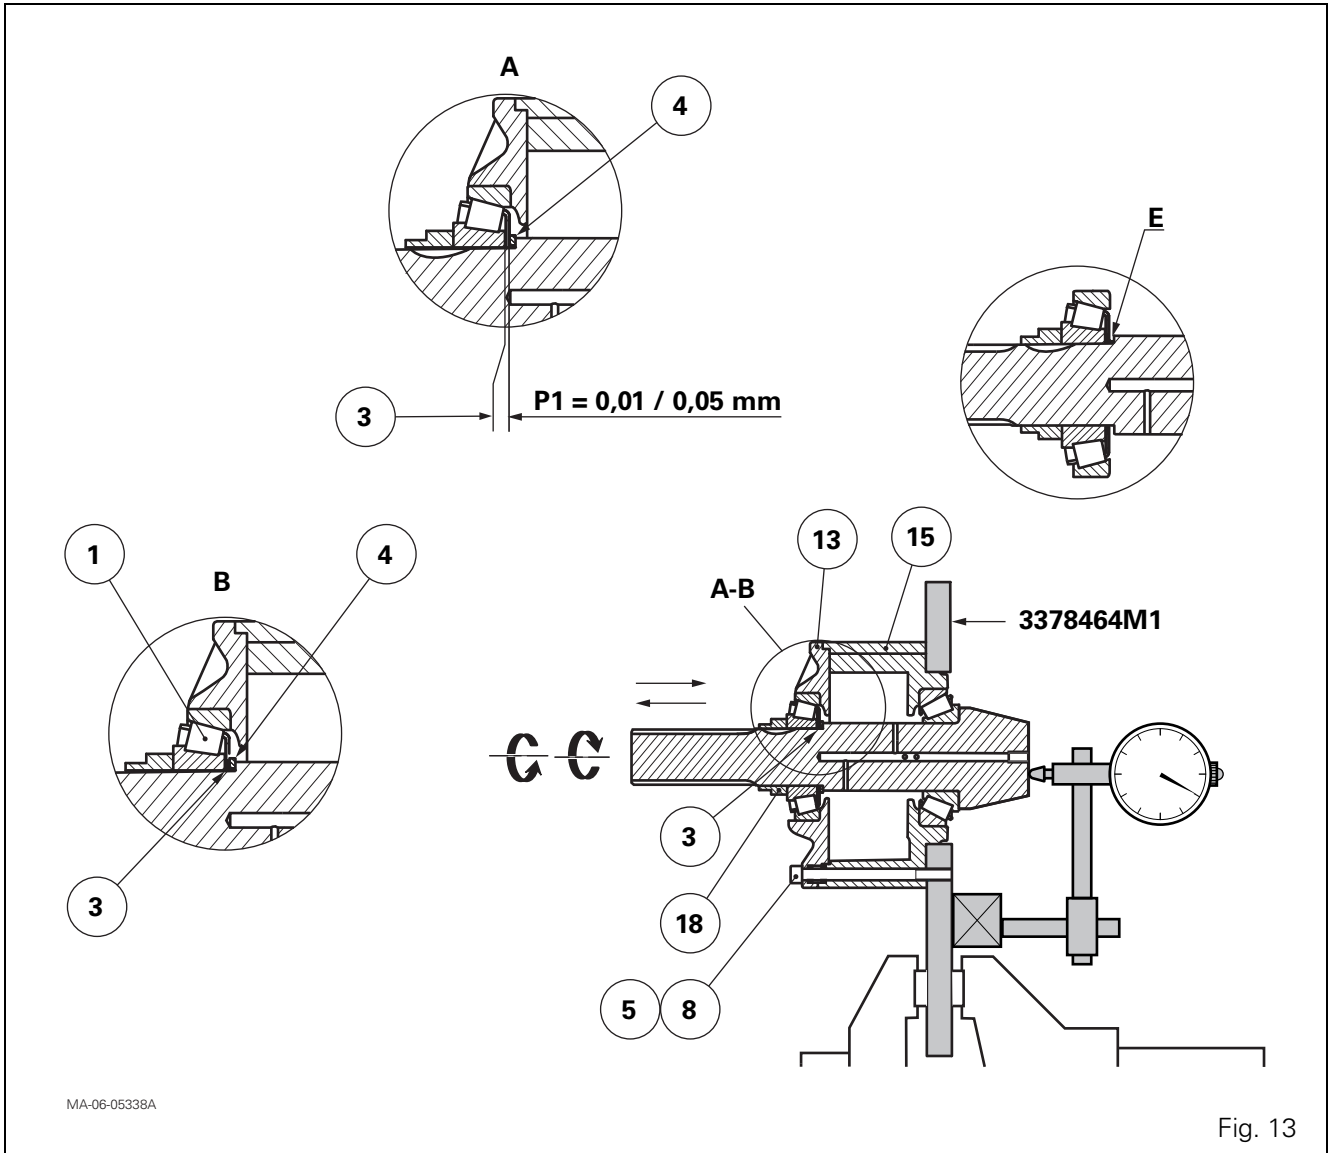
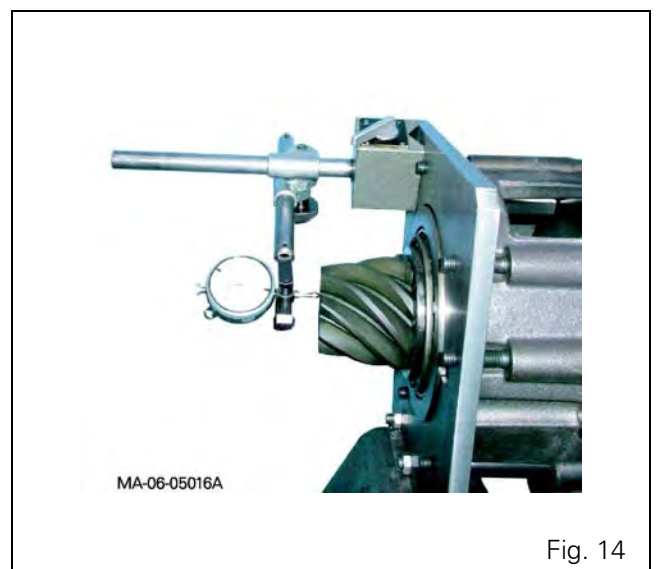

Fig. 13
Fig. 14
56. Fit the tapered roller bearing cone (7) (if removed) against the pinion shoulder using a press and a suitable fixture.
- the tapered roller bearing cup (10) against the shoulder of the hand brake unit (15);
- the tapered roller bearing cup (2) against the cover plate shoulder (13).
58. Firmly tighten tool ref. 3378464M1 in a vice (Fig. 13).
59. Fit the unit (15) and the cover plate (13) to the tool (Fig. 13) using the screws (8) tightened step-by-step in diametric opposition to a torque of 100 - 130 Nm.
60. Determine a shim (3) thickness in order to achieve a temporary clearance of approximately 0.15 to 0.20 mm, as a preliminary step to shimming with preload P1.
61. Insert the pinion fitted with the tapered roller bearing cone (7) into the hand brake unit (15).
Slide the following onto the pinion (Fig. 13):
64. Place a dial gauge on the base of the tool. Position its feeler pin on the flat end of the pinion (Fig. 13, Fig. 14).
65. Pull the pinion firmly by its front section while turning it alternately to the right and left in order to correctly position the tapered roller bearing cone (7) in the cup (10).
67. Repeat step 65, pushing firmly in order to correctly position the tapered roller bearing cone (1) in the cup (2).
68. Depending on the clearance reading on the dial gauge, select another shim (3) thickness to obtain a preload (Fig. 13, detail A): P1 = 0.01 to 0.05 mm.
69. Loosen the nut (18). Remove the tapered roller bearing cone (1).
70. Slide the shim(s) selected at step 68 between the thrust washer (4) and the tapered roller bearing cone (1) (Fig. 13, detail B).
71. Using wrench ref. 3378118M1 and socket ref. 3378119M1, gradually tighten the nut (18) to 200-250 Nm.